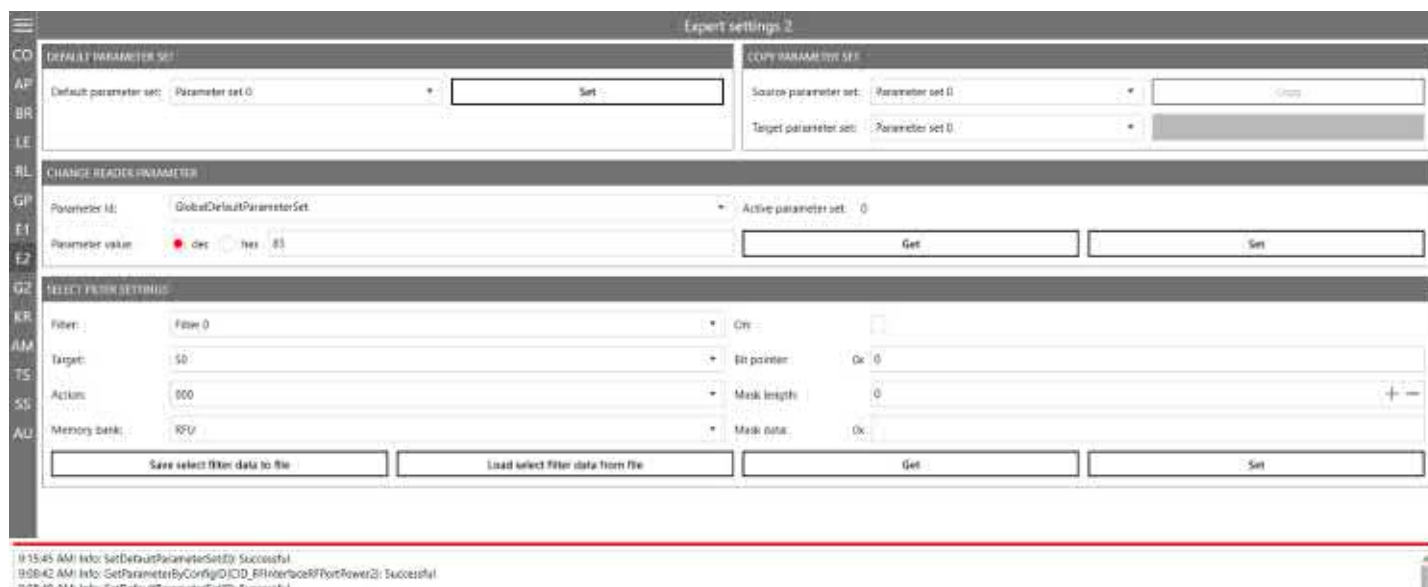

Fig. 57: Expert settings 2
1. Select the filter you would like to save the filtering settings to under **Filter** (①).
2. Select the target (②). Make sure the target matches the session set in ⑩ Fig. 57, p. 97.
3. Select an action (③). In the example, the action is set to **100**; see also *EPCglobal Gen 2 Specification*.
4. Select the **EPC** memory bank (④).
5. Activate the select filter (⑤).
7. Enter **40** at **Bit pointer** (⑥).
8. Enter the mask length at ⑦. In the example, *FC28* is one word, therefore, the value is **16**.
9. Enter the value (*FC28*) at ⑧.
10. Click **Set** (⑨).